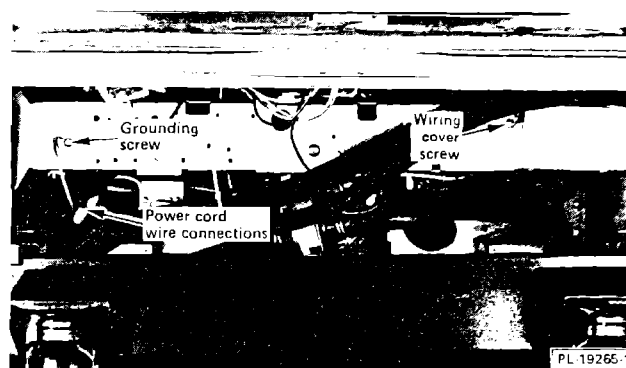

Fig. 2
4. **Electrician:** Locate the power cord (Fig. 2) and determine if taped wire nuts or crimped connectors were used on the black and the white leads. When removing connections, do not pull on the white wire as other connections may be disturbed. If taped wire nuts were used, remove them; if crimped connectors were used, cut the wires as close to the connectors as possible. Cut the wire tie that holds the power cord wires to the cross channel. Remove the wiring cover by removing its screw (Fig. 2). Take
Remove the grounding screw (Fig. 2) and remove the cord ground wire.